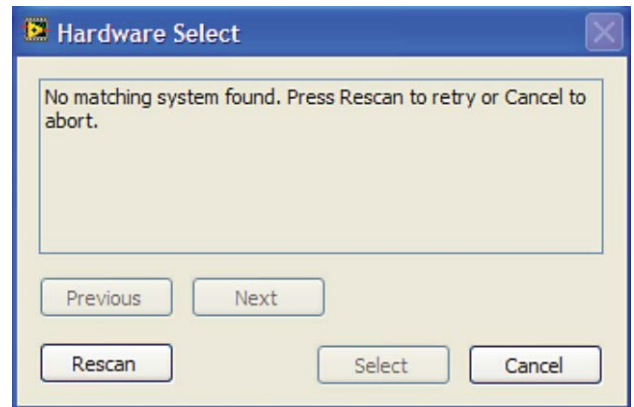

Figure 15. Connectivity Error Alert
2. If the AD7124-8 evaluation system is not connected to the USB port via the **EVAL-SDP-CBIZ** when the software is launched, a connectivity error displays (see Figure 15). Connect the evaluation board to the USB port of the PC, wait a few seconds, click **Rescan**, and then follow the on-screen instructions.